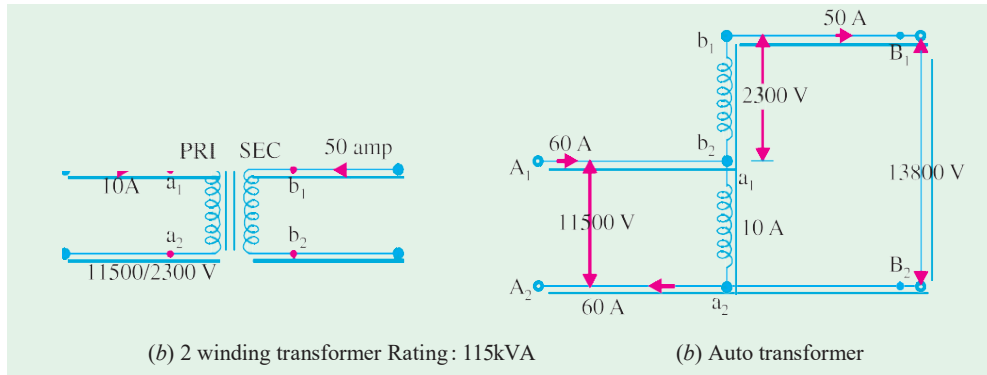

Fig. 32.65
**Solution.** As in Fig. 32.65 (a), 115 kVA, 11500/2300 V, transformer has the current ratings of 10 A and 50 A.
Referring to Fig. 32.65 (b), the step-up connections have been shown. Winding currents have to be at the same rated values. As in Fig. 32.65 (b), the voltage obtainable at  $B_1 - B_2$  is 13800 V, and from  $b_1$  a load-current of 50 A can be supplied.